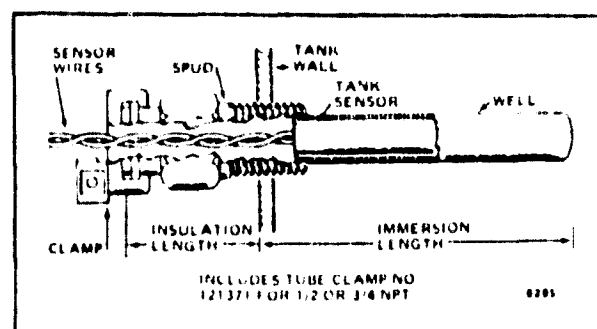

FIG. 1—TANK SENSOR INSERTED IN IMMERSION WELL.
Immersion Well—for mounting sensor in storage tank. See Table 1 and Fig. 1.
4. Insert the sensor probe into the immersion well until it bottoms. See Fig. 1.